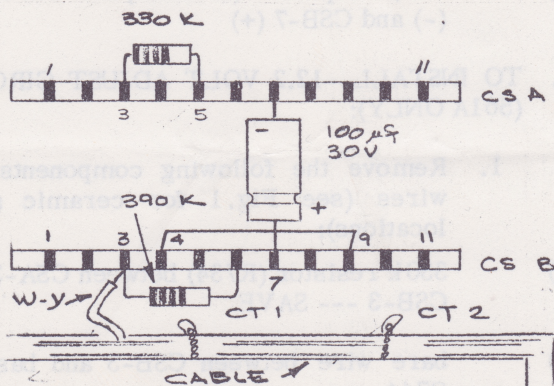

FIG. 4
2. Install the following components and wires, as indicated in Fig. 4: